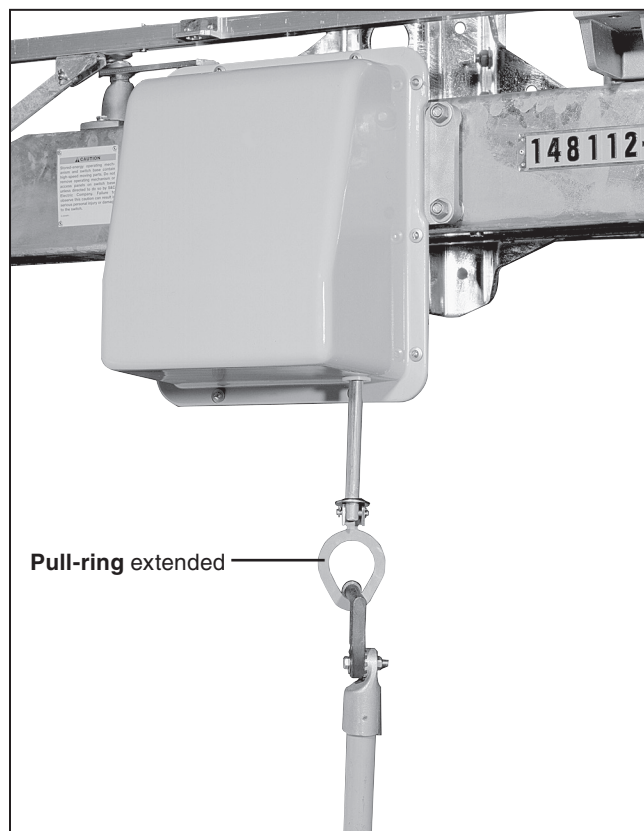

Figure 27. Operating the switch manually using a hookstick.
STEP 26. Scada-Mate Switching Systems are capable of manual interrupter operation in the upright, pole-top, and tiered-outboard mounting configurations. In the event of electrical power loss, a standard or extendible hookstick is used to open and close the interrupters. If the spring is fully discharged, pull on the operating mechanism pull-ring with the hookstick seven to nine times to effect a change of state. If the spring is partially charged, just a single pull will change interrupter position. See Figure 27.